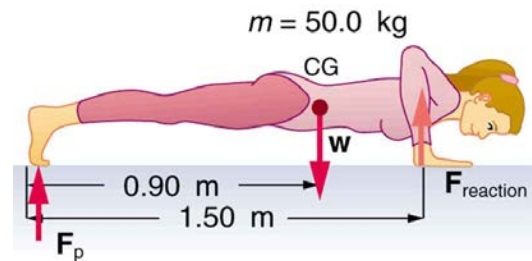

Figure 9.45 A woman doing pushups.
37. (a) What force should the woman in **Figure 9.45** exert on the floor with each hand to do a push-up? Assume that she moves up at a constant speed. (b) The triceps muscle at the back of her upper arm has an effective lever arm of 1.75 cm, and she exerts force on the floor at a horizontal distance of 20.0 cm from the elbow joint. Calculate the magnitude of the force in each triceps muscle, and compare it to her weight. (c) How much work does she do if her center of mass rises 0.240 m? (d) What is her useful power output if she does 25 pushups in one minute?